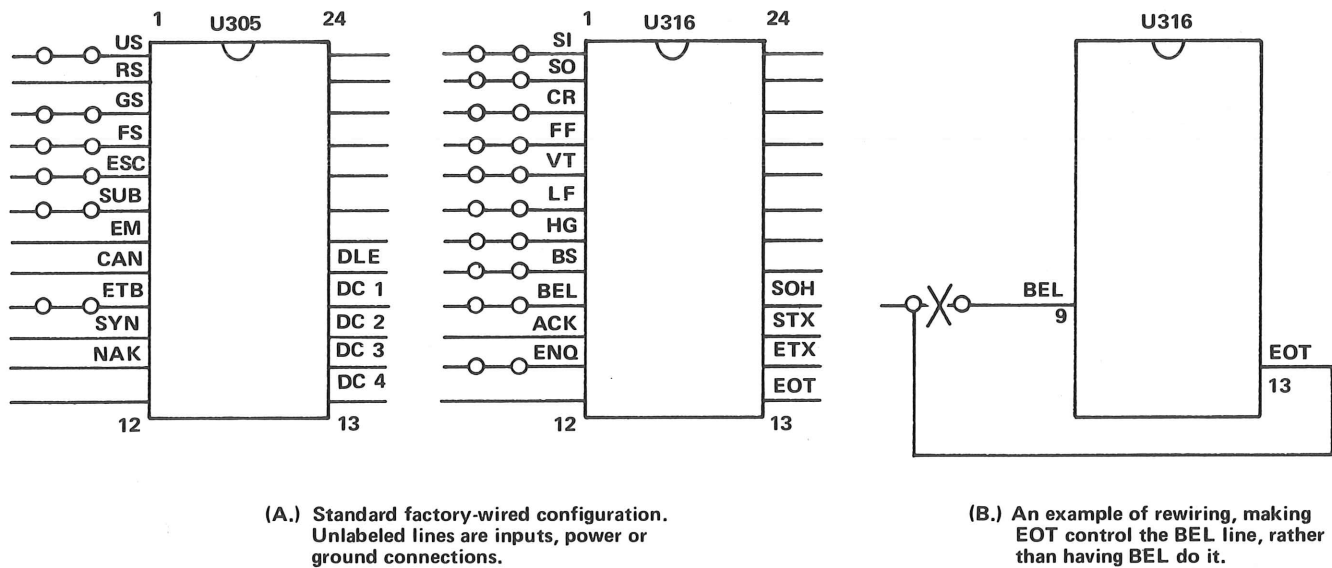

Fig. 3-2. TC-1 Control character network details.
**Control Characters.** In standard factory-wired Terminals, control characters cause effects as listed in the Controls Section of this manual. A network on the TC-1 circuit card in the pedestal permits changes to be made so that any one of the listed results can be obtained in response to any one of the listed control characters. The networks are shown in Fig. 3-2.